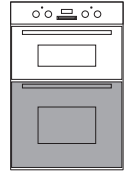

Figure 8a
- To lower the grill element: use a flat-head screwdriver or a small coin to loosen the element fixing screw (fig. 8a).